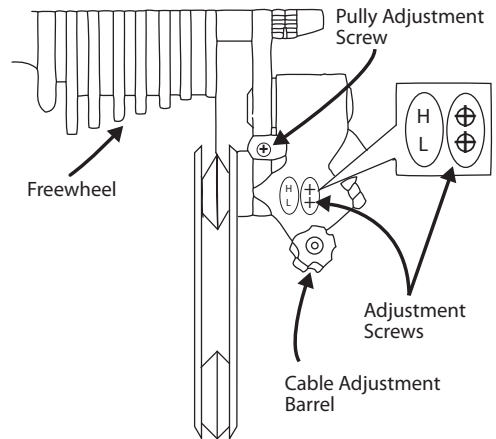

Fig. 51: Rear derailleur parts. View from the rear.
6. Cable tension is adjusted by turning the Cable Adjusting Barrel, which is located at the junction of the cable and the shifter or rear derailleur (Fig. 51). To increase tension, turn the knurled knob counterclockwise, to decrease tension, turn the knob clockwise. Turn until the problem is corrected.